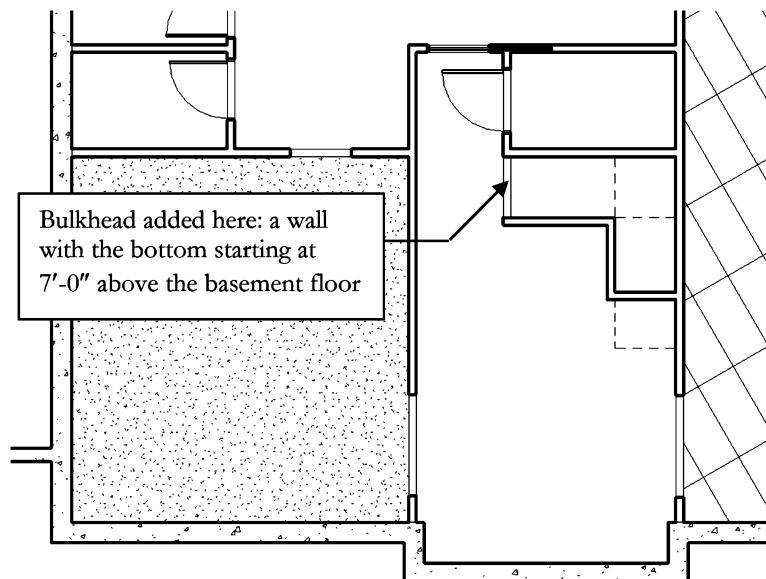

FIGURE 9-2.13 Bulkhead drawn
37. **Draw the bulkhead;** make sure you snap to the adjacent walls (Figure 9-2.13).